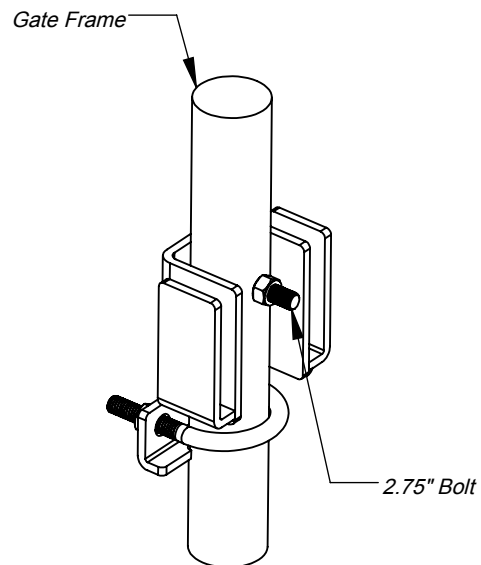

Figure 8
9. Mount the keeper to the gate frame using the U-bolt and 2.75" long bolt (Figure 8).